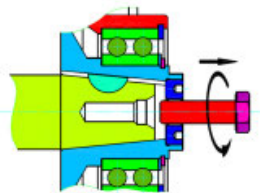

FIGURE 13: REMOVE M12 BOLT
- Using a large adjustable wrench to hold the hexagonal part of the clutch rotor, remove the central M12 clutch mounting screw (figure 13).